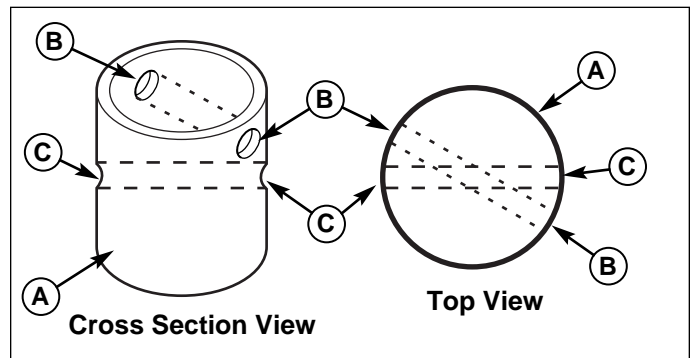

Figure 9. Hole Location 319 Models
Mount to right hand side handle of unit following the same instructions for the 520 models. Rotate position of new clean-out hole (B, Figure 9) approximately 30 degrees from existing bail hole (C) to avoid interference of bail operation.